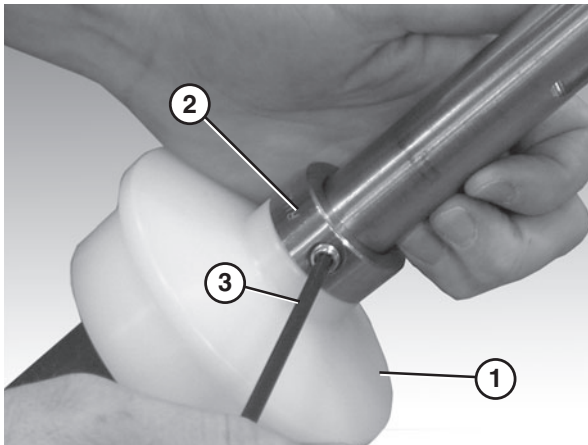

Figure 84
- Slide the second flanged puck (Figure 84, item 1) and the retaining ring (Figure 84, item 2) onto the drive spindle.
- Tighten the retainer ring fastener (Figure 84, item 3) using a hex wrench.